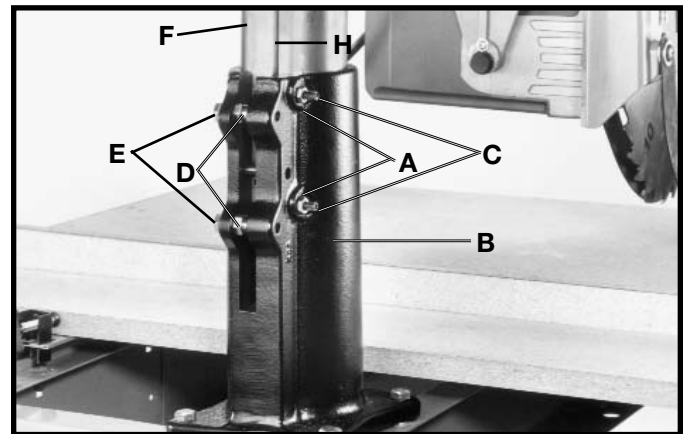

Fig. 65
2. Loosen hex nuts (A) Fig. 65, and gib adjustment screws (C).
3. Adjustment to column base (B) Fig. 65, is made by loosening hex nuts (D) and turning screws (E) until column base wraps around column securely and can be raised or lowered without binding. Then tighten hex nuts (D) against column base.
4. After all movement between column base (B) Fig. 65, and elevating column (F) is removed, tighten gib and adjustment screws (C) against gib (H) until all side-to-side play is removed. Then tighten hex nuts (A) against column base. **NOTE: After adjusting column tension, refer to "ADJUSTING SAW BLADE TRAVEL SQUARE WITH FENCE" to determine if saw blade travel was affected.**